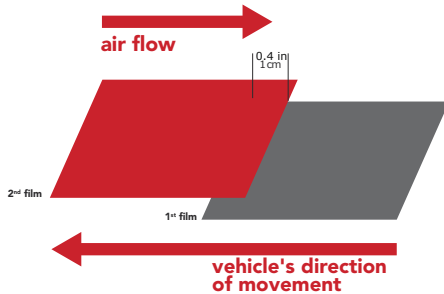

Figure 21
- Vertical overlapping of the HXONE film on a mobile surface: assuming you always apply the film starting from the rear of the vehicle and moving to the front, then the overlapping will be done in the same way. (FIG. 21)